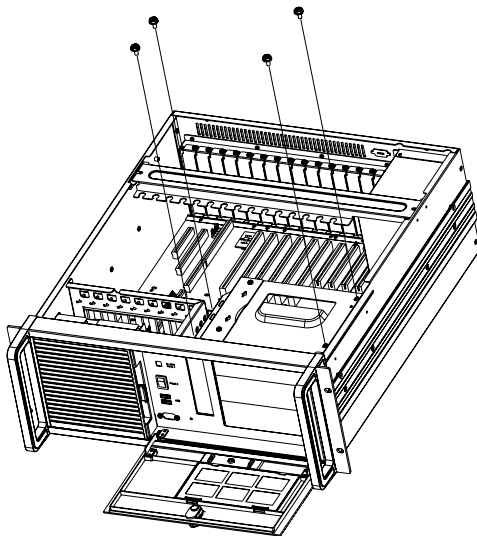

Figure 2.8: Removing the disk drive housing
1. Undo the four screws on the top of the disk drive housing and then lift it up. (see *Figure 2.8*)